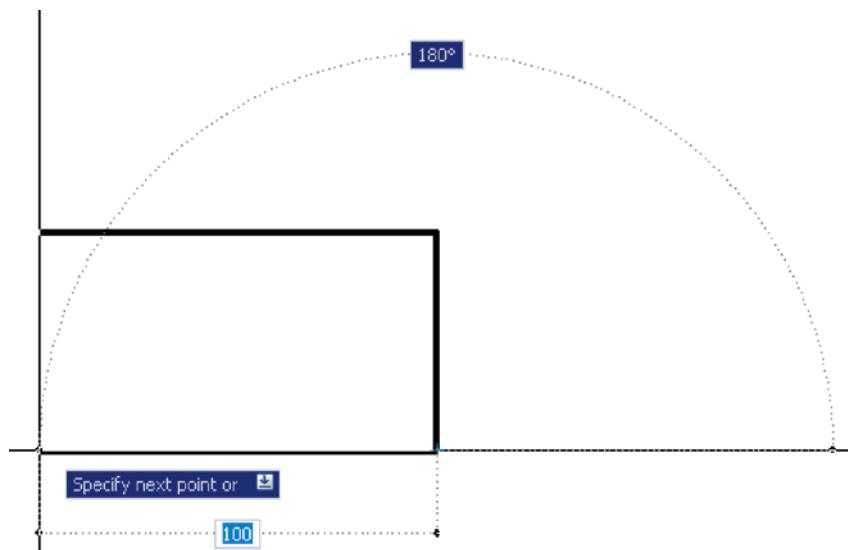

Fig. 3.31 Dynamic Input – first example – **Polyline** – the horizontal distance
7. *Drag* the cursor to the left until the required horizontal distance is showing and *right-click* (Fig. 3.31).